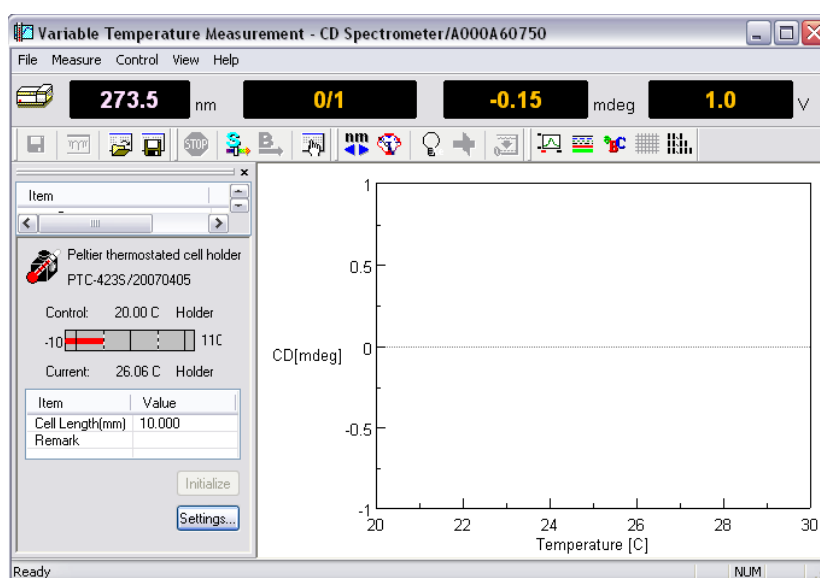

Figure 6.1 [Temperature Variable Measurement] window
- (3) Select [PTC-423S] from the [Control] menu or click <Settings...> button of Figure. 6.1. The following dialog box appears.
- (1) Click the  on or select [Parameters...] from the [Measure] menu of Figure. 6.1. The following dialog box appears. The parameters setting dialog box is composed of the [Temperature], [General], [Control], [Information] and [Data] dialog boxes. Clicking a tab at the top of the dialog box changes the dialog box. Refer to Section 3.1.1 for descriptions of these functions.
- 3) Ensure that the power of Peltier accessory is turned ON and the temperature description of Figure. 2.13 is displayed as shown in Figure. 6.1.
**Note (1):** Refer to “CD/ORD measuring method” for cell types.
**Note (2):** Ensure the temperature of sample. Refer to Section 4.2.2 for how to control the temperature of the sample and the sample cell holder.
**Note (3):** If Peltier accessory is not registered in the [Temperature Interval Scan Measurement], [sample] - [Measure] menu is displayed in gray.